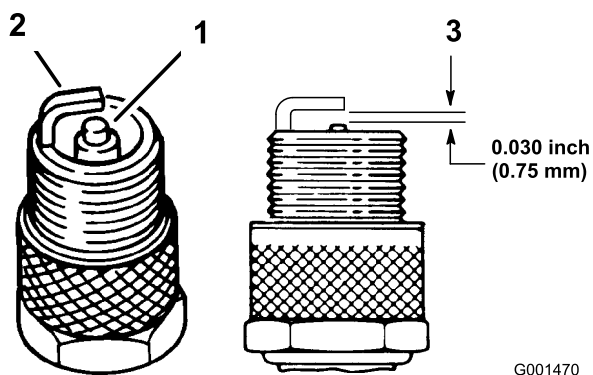

Figure 31
1. Look at the center of the spark plugs (Figure 31). If you see light brown or gray on the insulator, the engine is operating properly. A black coating on the insulator usually means that the air cleaner is dirty.
2. Check the gap between the center and side electrodes (Figure 31). Bend the side electrode (Figure 31) if the gap is not correct.